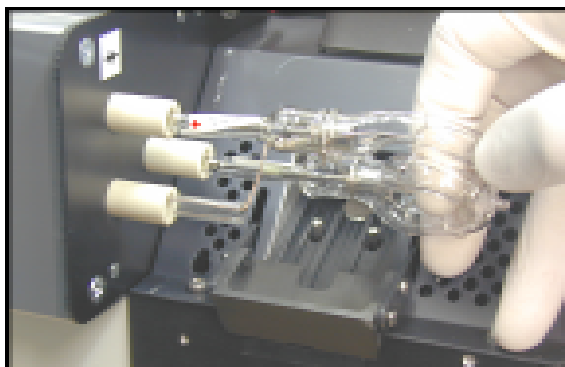

Fig.9
Make sure the lamp is inserted correctly | lamp electrode (10) marked with a + must be inserted into the socket (13) bearing the same mark (Fig. 9).